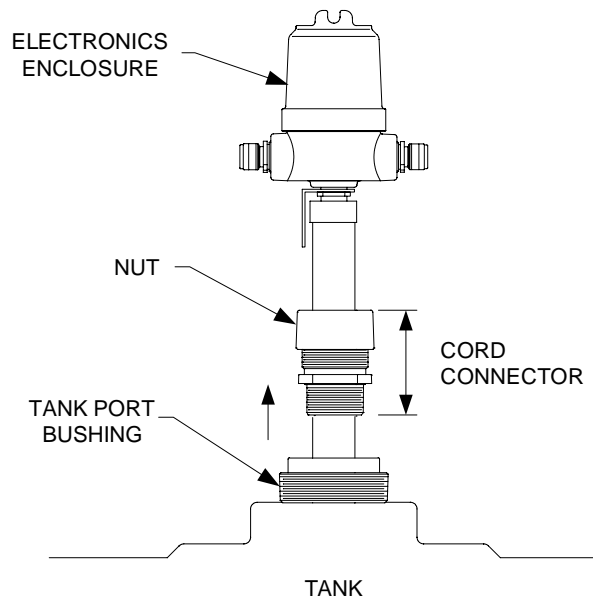

Figure 59: Removing the unit from tank
4. Loosen the nut on the cord connector (Figure 59).